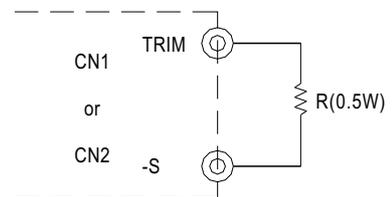

Fig. 3.2 Output voltage trimming
- Connecting a resistor externally between TRIM and -S on CN1 or CN2 that is shown in Fig. 3.2.